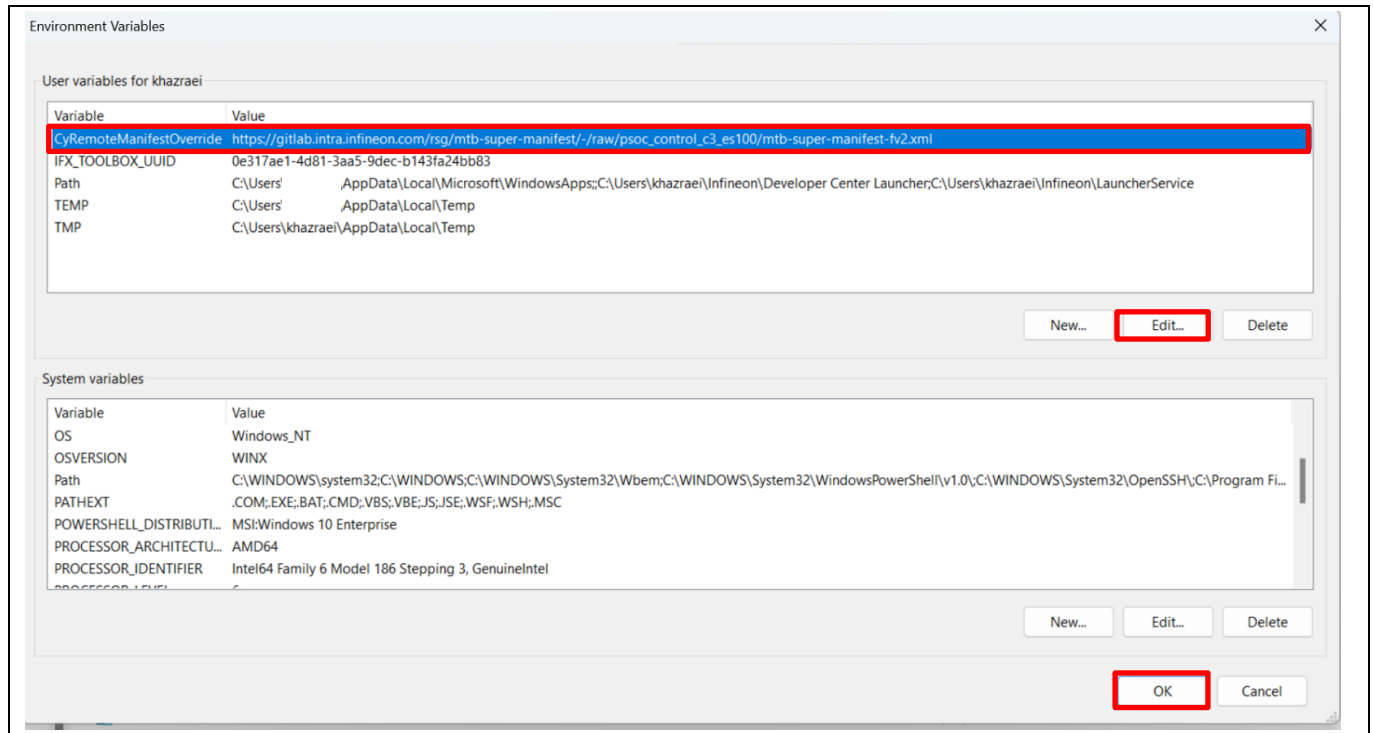

Figure 28 Editing variable
7. Select **Delete** and then select **OK** (Figure 28)
9. Copy and paste the following link for CyRemoteManifestOverride as seen in Figure 28 and then select **OK**